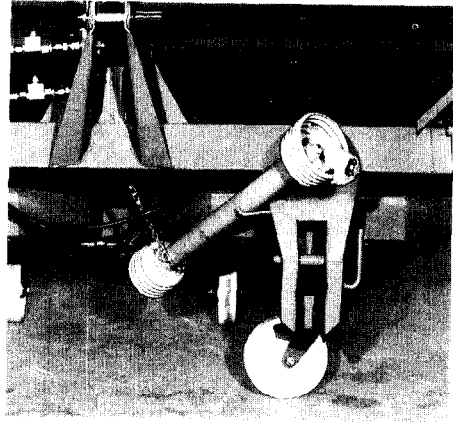

Fig. 1b
2.2.54 Prevent P.T.O. guard from spinning by fixing the provided chain to a nearby static part (see Fig. 1b).
The two halves of the P.T.O. shaft are now ready for being joined together. Make sure, that under all working conditions the angle of the shaft **must not exceed 25 degrees** (lubricate P.T.O. shaft and tube). The P.T.O. guard is detachable. Affix the chain of the P.T.O. guard to the hole provided in the main frame as shown in Fig. 1b to prevent the guard from rotating.
When parking the fertilizer spreader the P.T.O. shaft should be placed into the catching hook (Fig. 1b).